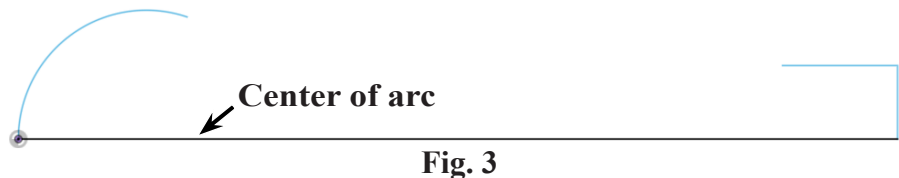
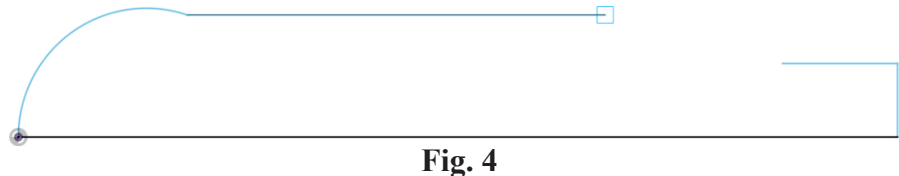
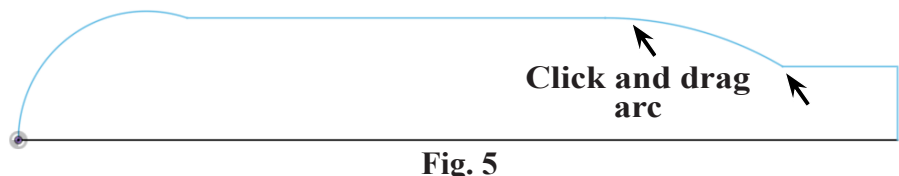

Fig. 3
Fig. 4
Fig. 5
Step 5. Click the bottom horizontal line close to the Origin to place the center of the arc. Click the Origin to start the first arc endpoint, then move cursor around clockwise to swing arc roughly 90 degrees. Click to place the second endpoint, Fig. 3.
Step 6. Click **Line**  (L) on the toolbar.
Step 7. Starting from the endpoint of the arc, sketch a horizontal line across the sketch, Fig. 4, then **click and drag** at the endpoint of the line, a tangent arc to endpoint of short horizontal line, Fig. 5.